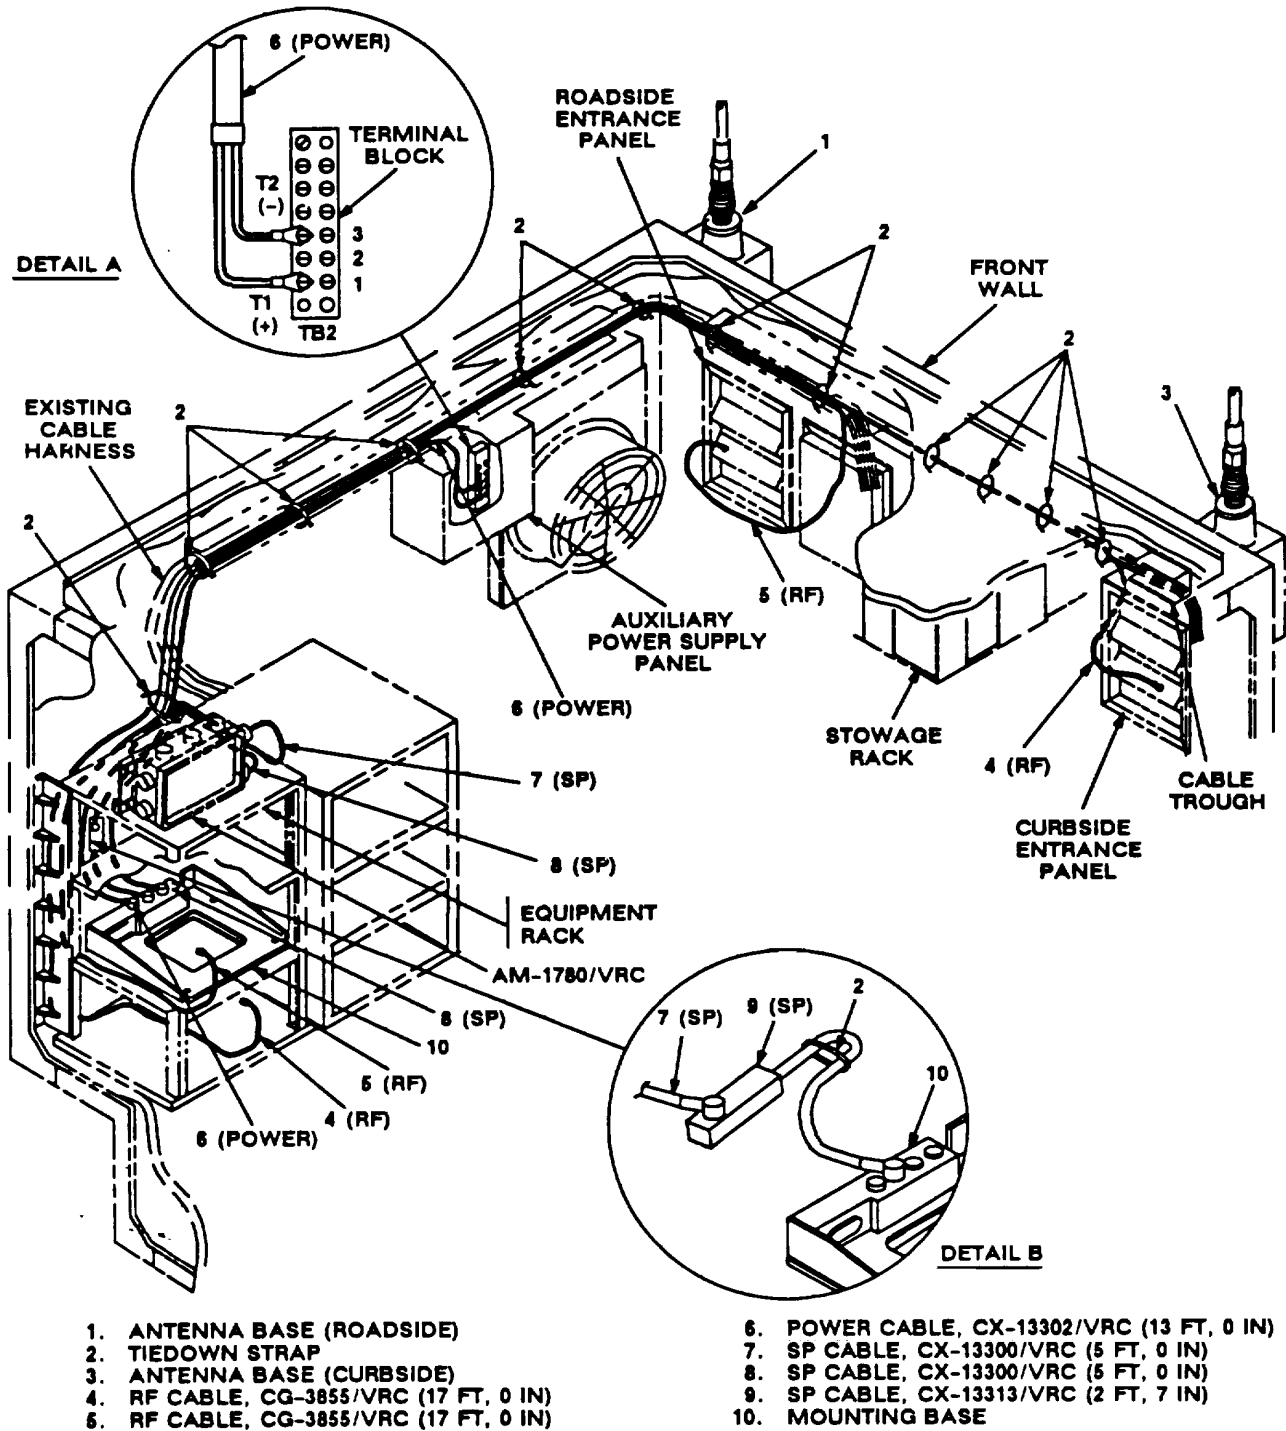

Figure 5-5 (2). Cable Installation: Interior Cabling
l. RF cable (4) connector P1.	Connect and secure to connector adapter in curbside entrance panel.
m. RF cable (4).	Route up to cable trough on front wall; then route along existing cable harness to left side of stowage rack.
n. Four tiedown straps (2).	Wrap around RF cable (4) and install loosely to existing cable harness. See figure 5-5 (2) for location(s).
o. RF cable (5) connector P1.	Connect and secure to connector adapter in roadside entrance panel. See figure 5-5 (2).
p. RF cables (4, 5).	Route through cable trough (along existing cable harness) to forward roadside corner of shelter. See figure 5-5 (2).
q. Two tiedown straps (2).	Wrap around RF cables (4, 5) and install loosely to existing cable harness. See figure 5-5 (2) for location(s).
r. RF cables (4, 5).	From forward roadside corner, route through cable trough (along existing cable harness) to rear of equipment rack. See figure 5-5 (2).
v. Power cable (6).	From left side of auxiliary power supply panel, route through cable trough (along RF cables 4 and 5) to rear of equipment rack. See figure 5-5 (2).